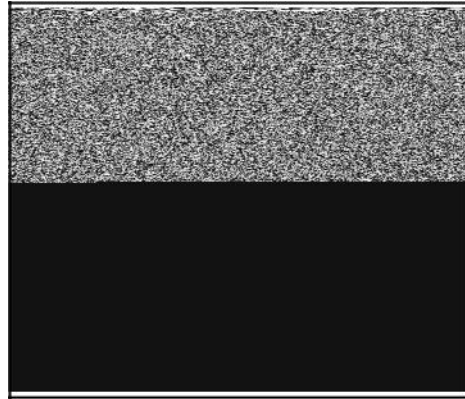

Figure 1
2. Release clamps and disconnect fuel lines **(A)**, Figures 1 and 2) and vacuum line **(B)** from the fuel pump **(C)**.